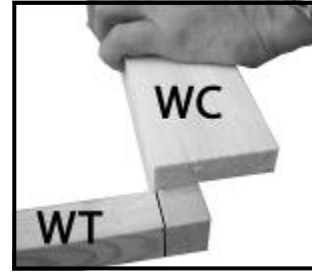

Fig A4
12. Place one of the **WC** parts on top of the **WA** part level with the inside of the frame and the bottom of the **WT** part (fig A4).